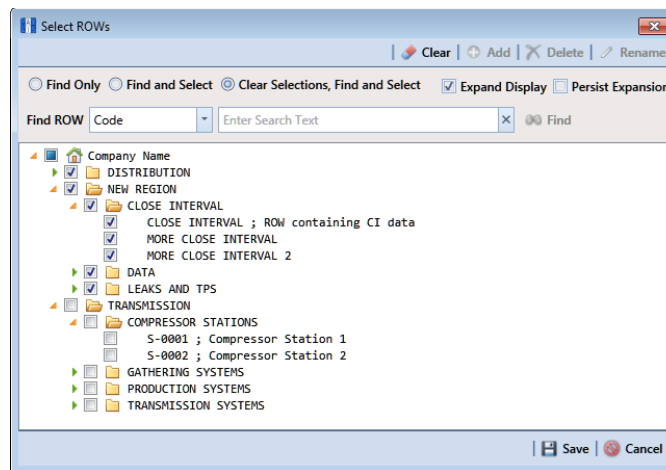

Figure 8-37. Select ROWs
- 2 Select one or more pipeline segments in the *Select ROWs* window (Figure 8-37). Select pipeline segments with facilities you plan to survey. Click  **Save** to close the window.